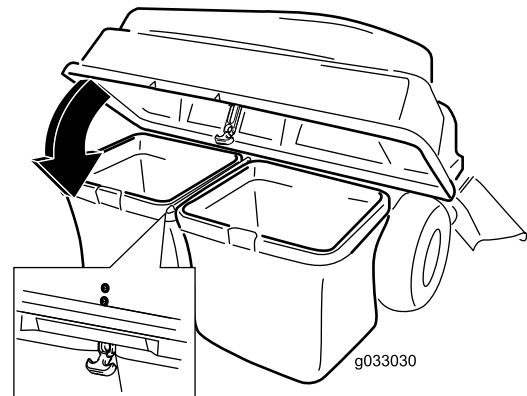

Figure 23
- Lower the bagger top onto the bags (Figure 23).
- Secure the hood with the latch (Figure 23).